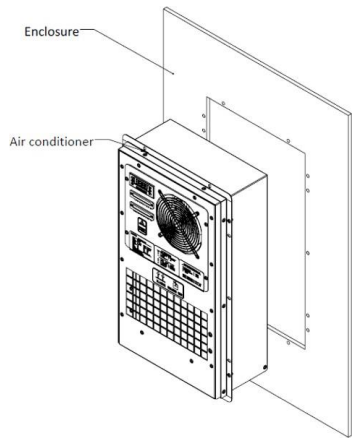

Figure 2
4. Check whether sealing gasket is installed on the flange of the air conditioner, and then install the air conditioner into the corresponding cutout in the cabinet, as shown in Figure 2.